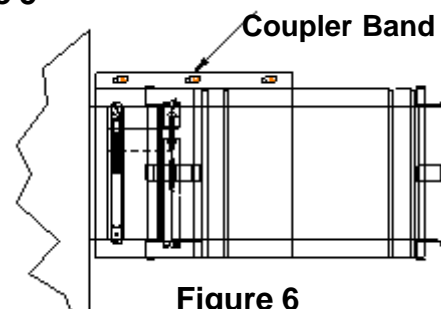

Figure 6
5. Install the coupler band over the boiler adapter to finish installation, *figure 6*.